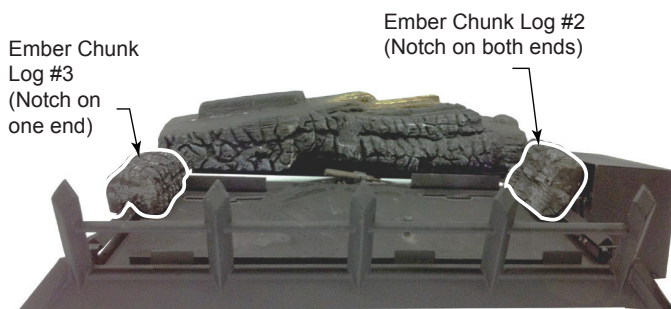

Figure 52
2. Place the ember chunk (#2) with notch on both ends on the grate bar right side of the burner adjacent to the controls. Push towards rear as far as possible. Figure 52.
3. Place the ember chunk (#3) with notch on one end on the grate bar left side of the burner with notch towards rear. Push towards rear as far as possible. Figure 52